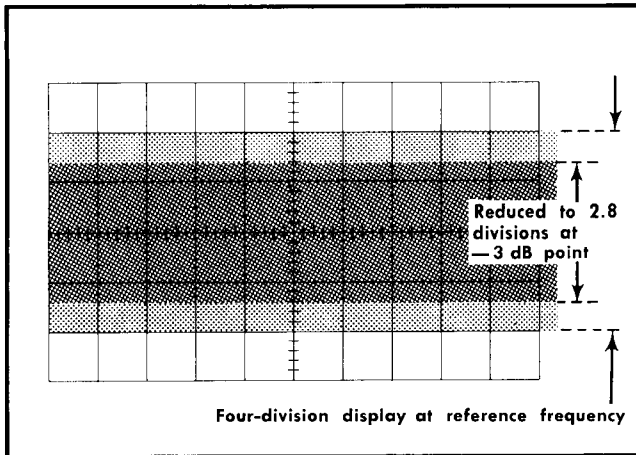

Fig. 5-9. Typical CRT display when checking vertical frequency response.
e. Without changing the output amplitude, increase the output frequency of the generator until the display is reduced to 2.8 divisions (-3 dB point; see Fig. 5-9).
- d. Without changing the output amplitude, increase the output frequency of the generator until the deflection is reduced to 2.8 divisions (−3 dB point; see Fig. 5-9).
- j. Without changing the output amplitude, increase the output frequency of the generator until the deflection is reduced to 2.8 divisions (−3 dB point; see Fig. 5-9).
- e. Without changing the output amplitude, increase the output frequency of the generator until the deflection is reduced to 2.8 divisions (−3 dB point; see Fig. 5-9).
- k. Without changing the output amplitude, increase the output frequency of the generator until the deflection is reduced to 2.8 divisions (−3 dB point; see Fig. 5-9).